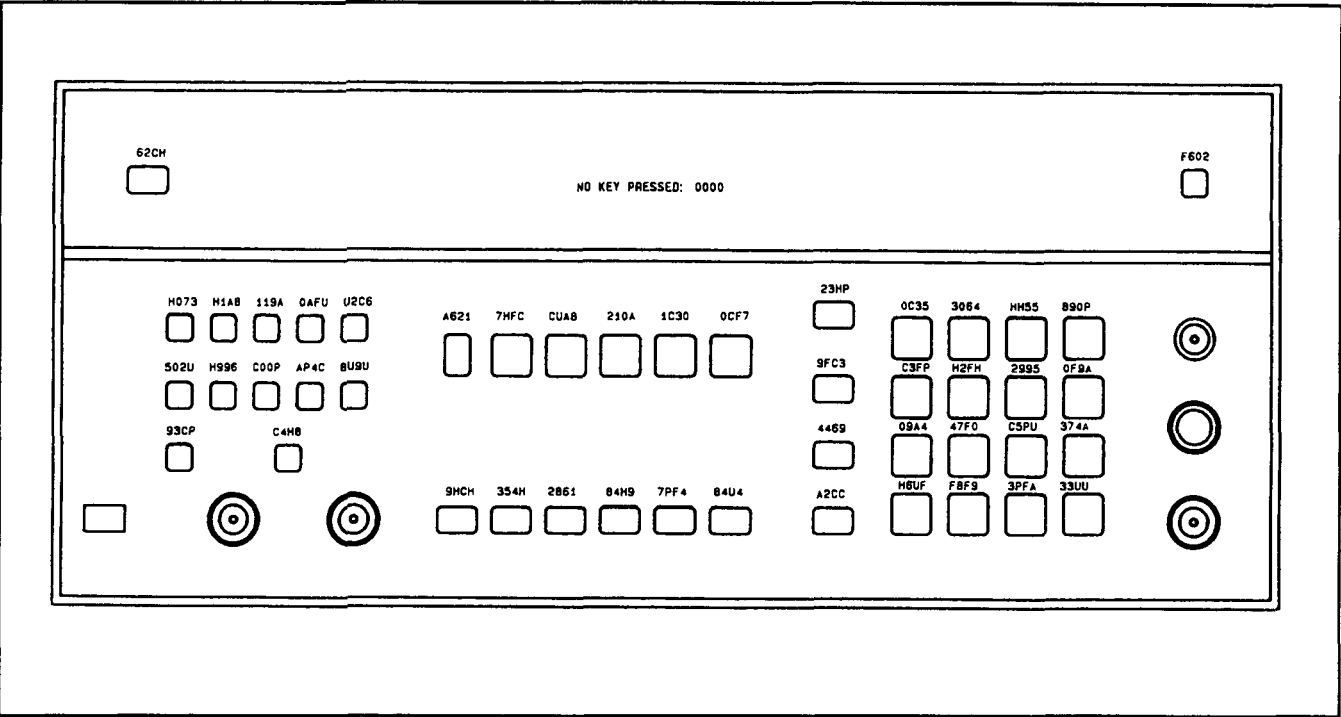

Figure 8F-33. Signatures,  Step 6
6. Press the front-panel keys and note the signature. The signatures are documented in Figure 8F-33.